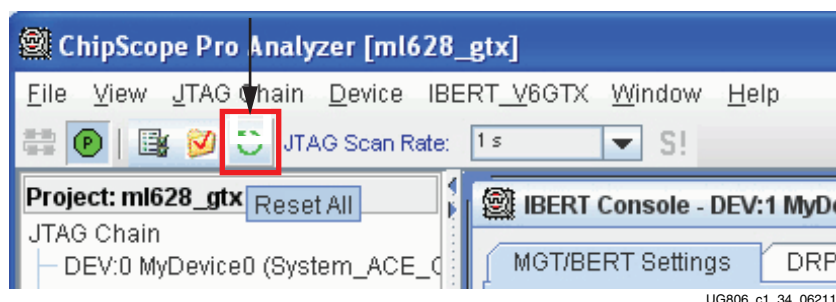

Figure 1-34: Reset All Button
4. At the top of the ChipScope Pro analyzer window, click the **Reset All** button (Figure 1-34).